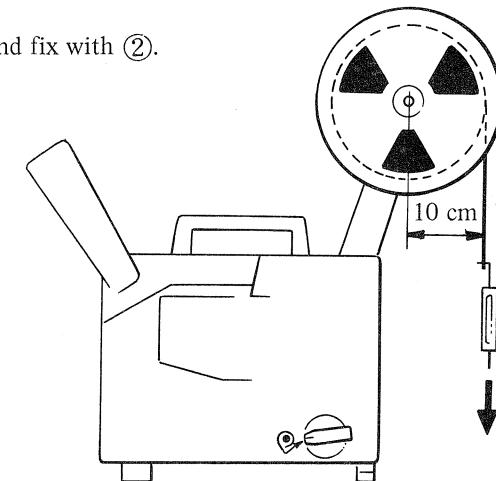

Fig.14
\* Measurement of film rewinding power: Apply 800 ft reel to the rewind shaft assy (1), set to rewinding state by winding film to approximately 20 cm dia., and measure by using bar spring scale. (See Fig. 14)